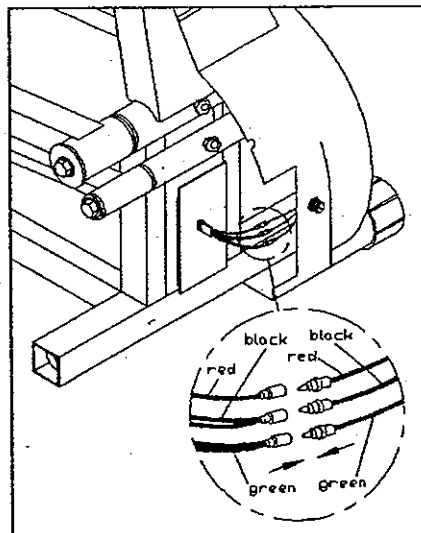

Fig. 3
- d. Make sure the color wires connected are correctly. (see Fig. 3).